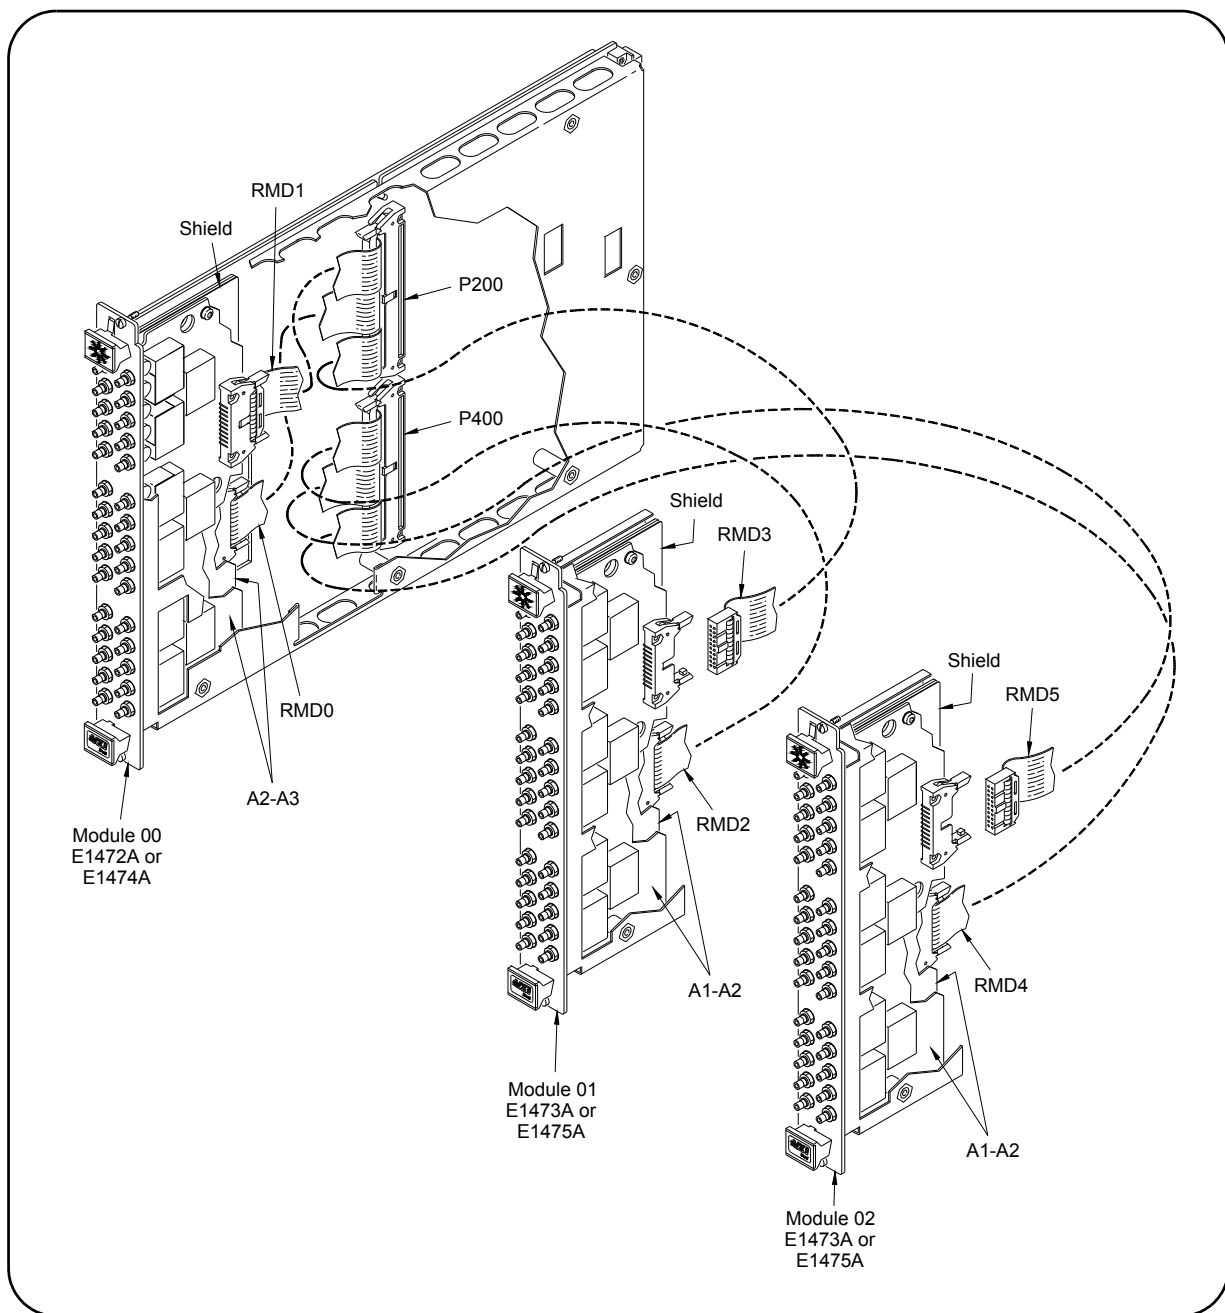

Figure 2-3. Expander Module Connections
Each RF Multiplexer module is capable of controlling up to two Expander modules, providing a total of eighteen (4:1) banks. The Expander modules can be physically located in the C-Size mainframe next to the RF Multiplexer, or up to eight meters away using extension cables. Use Figure 2-3 and the following procedure to connect the Expander modules.
- 3 Mark the 3-1 cables as shown in Figure 2-3 (cross out unused RMD number).
- 5 If the Expander module is physically located (up to eight meters) away from the mainframe, you can daisy chain up to 10 extender cables (part number E1473-80002) for each RMD connection (see Figure 2-3, module 02).